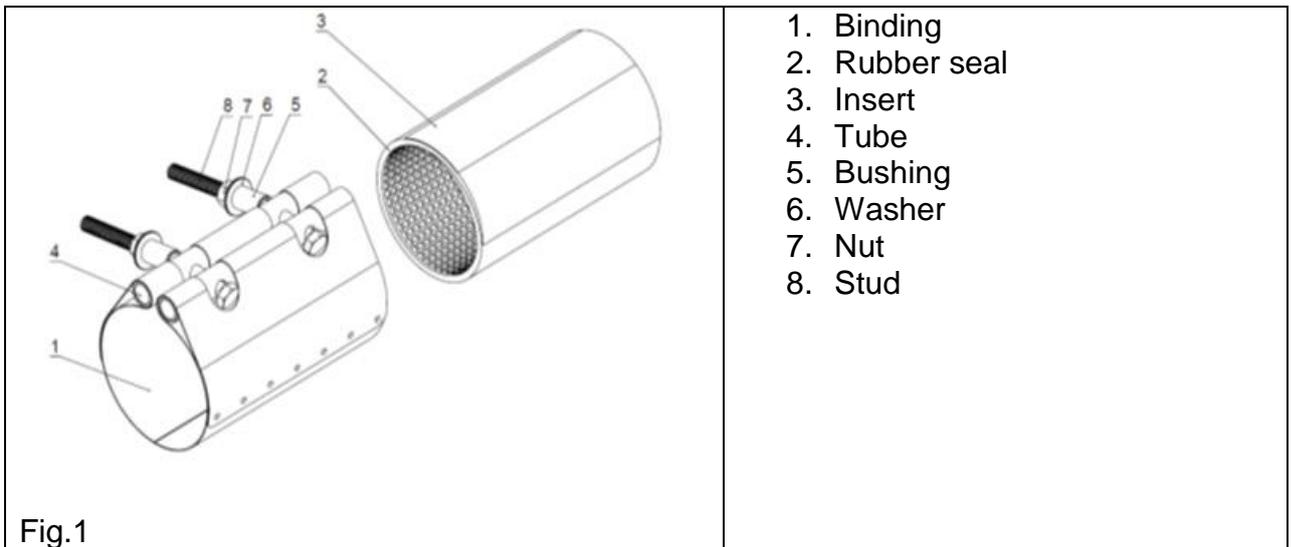

Fig.1
7. Put bushings, washers, and nuts on the studs (Fig.1) and evenly tighten the nuts with a wrench. Tighten until the desired result, based on the operating pressure in the pipeline. Maximum torque: for M12 studs - 78 Nm, for M14 - 123 Nm, for M16 - 180 Nm (according to the datasheet 37.001.131-89). When mounting the clamp on a plastic pipe, reduce the torque by 50% to avoid the seal being "pulled out". Wait 20 minutes and then tighten again achieving the same torque. In case you didn't use a torque wrench, simply tighten the nuts a little bit more. Once assembled, please test the leaking under the pressure of the installed clamp. If the repaired pipeline is placed in the ground, consolidate the soil around the clamp and cover it with sand to avoid subsidence at the spot where the repair works have been carried out.